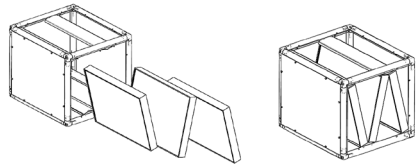

Fig. 15 Filter orientation, 3-ton model.
3. Starting at the bottom, insert new filters, being careful to match the airflow arrows on the filters with those on the air cleaner cabinet. (See Figs. 15 and 16).